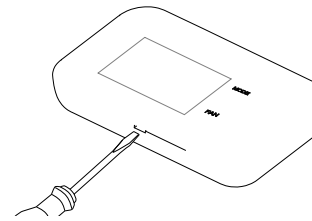

Figure 509 (Transmitter)
3. Use a flat head screw driver to separate the front and back housing of the transmitter. (See Figure 509)